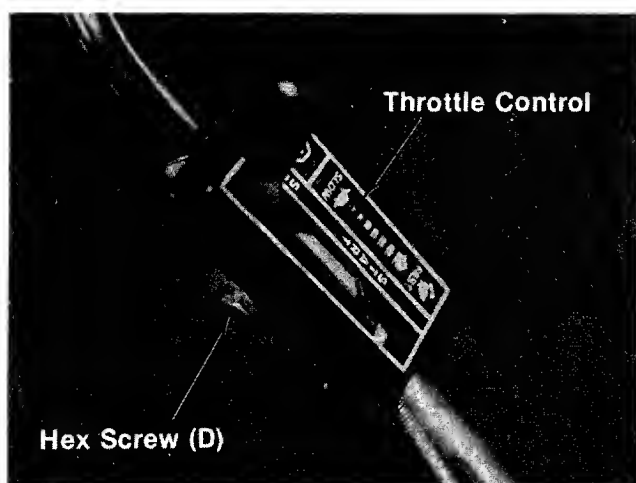

FIGURE 5.
5. Place the throttle control in position on the **right** hand side of upper handle. Secure with hex screw (B) and hex lock nut (E) provided. See figure 5.